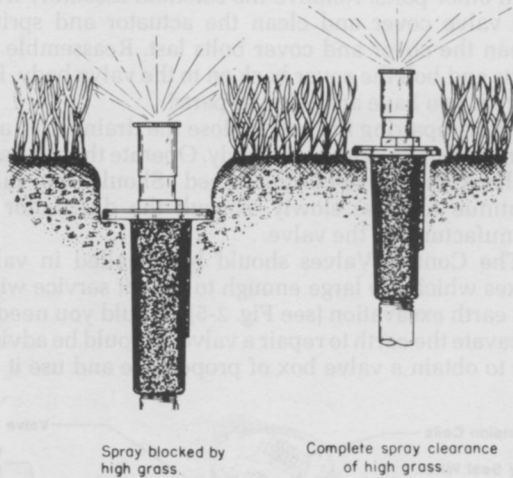

Figure 2-6
1. Sprinkler heads not installed at the proper level (see Fig. 2-6)